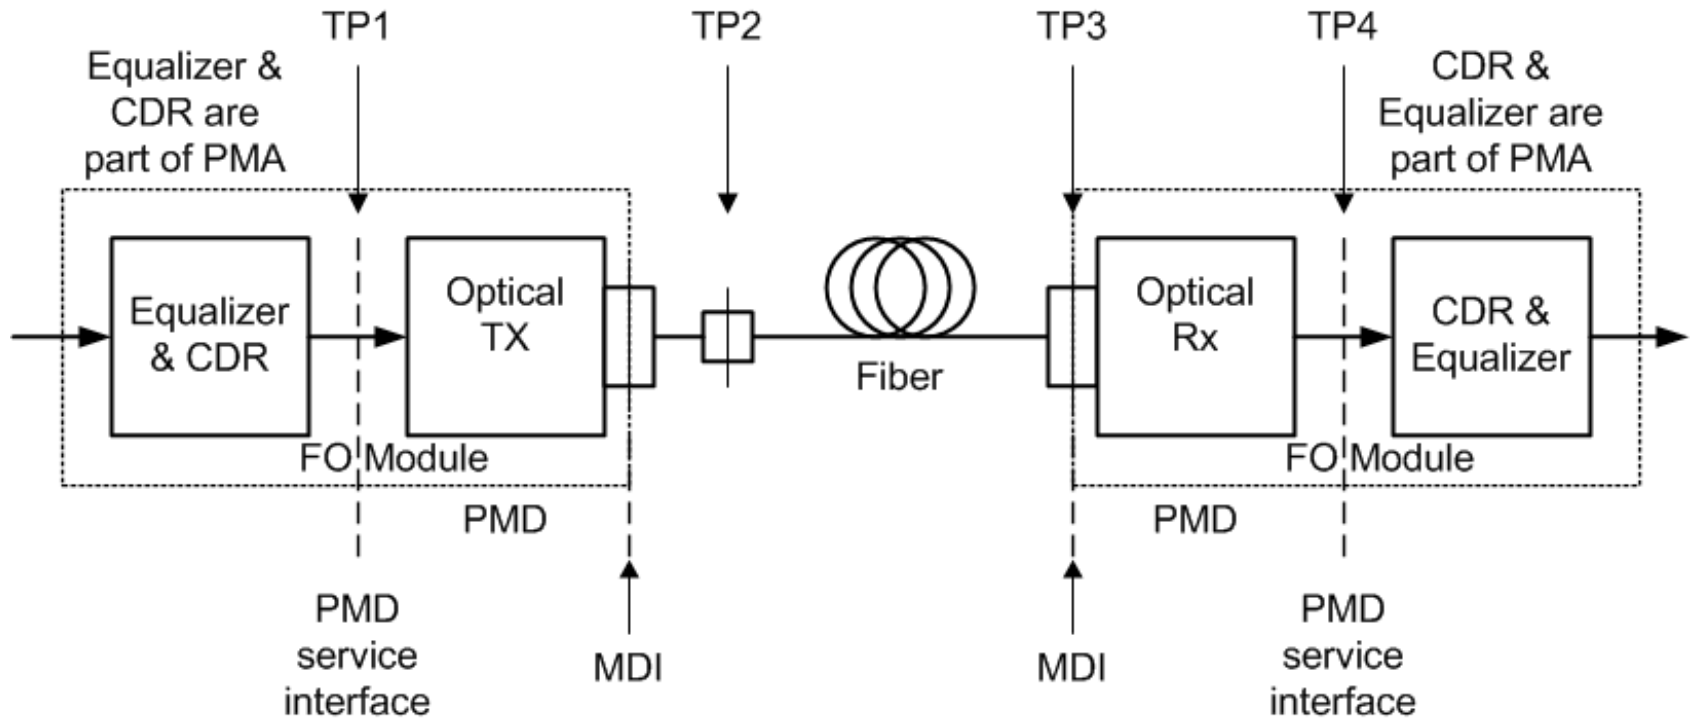

Figure 1
- For cases, as shown above in Figure 1, where retimers are embedded in the optical module, the PMD service interface is not exposed. TP1 and TP4 remain as points on the PMD service interface and, consequently, not exposed.